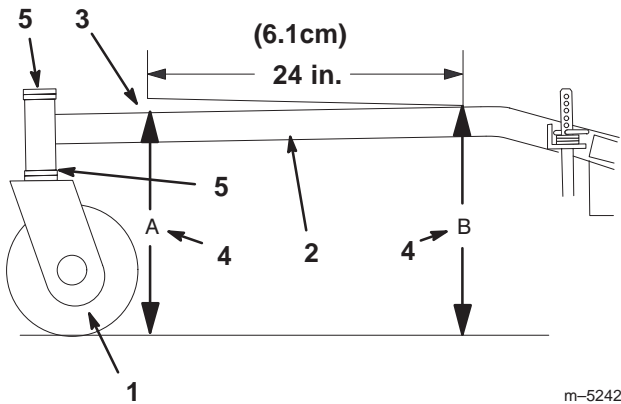

Figure 50
1. Measure out 24 inches on the carrier frame (Fig. 50).
2. Measure carrier frame height at location **A** (Fig. 50).
3. Measure carrier frame height at location **B** (Fig. 50).
4. The height at location **A** must be a 1/4–3/8 in. (6 mm – 10 mm) lower than location **B** (Fig. 50).
5. If the carrier frame is not correct, move caster spacers to make it a 1/4–3/8 in. (6 mm – 10 mm) pitch (Fig. 50). Move spacers from top or bottom to make the correct pitch.